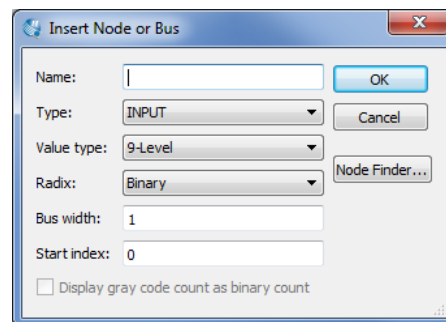
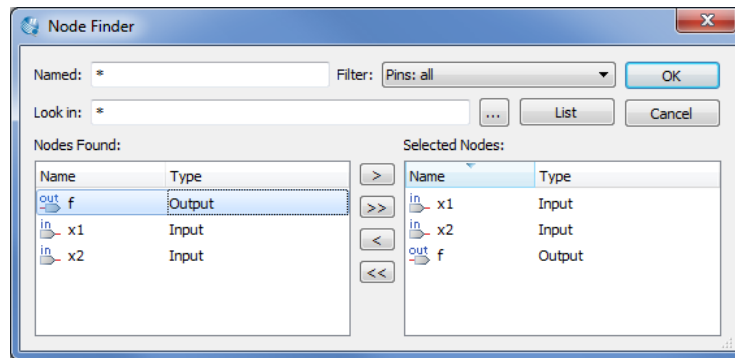
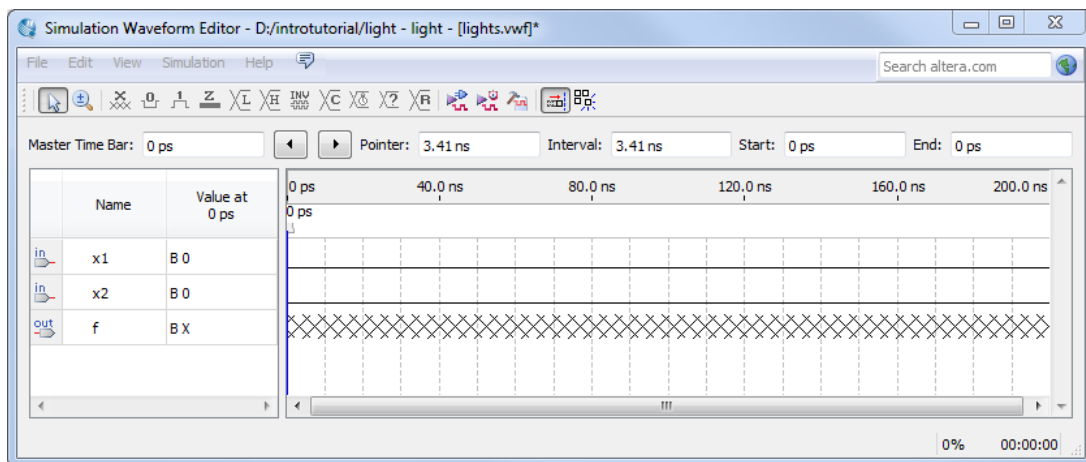

Figure 32. The Insert Node or Bus dialog box.
Figure 33. Selecting nodes to insert into the Waveform Editor.
Figure 34. The nodes needed for simulation.
3. Next, we want to include the input and output nodes of the circuit to be simulated. Click **Edit > Insert > Insert Node or Bus** to open the window in Figure 32. It is possible to type the name of a signal (pin) into the Name box, or use the Node Finder to search your project for the signals. Click on the button labeled **Node Finder** to open the window in Figure 33. The Node Finder utility has a filter used to indicate what type of nodes are to be found. Since we are interested in input and output pins, set the filter to **Pins: all**. Click the **List** button to find the input and output nodes as indicated on the left side of the figure.
Click on the  $x1$  signal in the Nodes Found box in Figure 33, and then click the > sign to add it to the Selected Nodes box on the right side of the figure. Do the same for  $x2$  and  $f$ . Click OK to close the Node Finder window, and then click OK in the window of Figure 32. This leaves a fully displayed Waveform Editor window, as shown in Figure 34. If you did not select the nodes in the same order as displayed in Figure 34, it is possible to rearrange them. To move a waveform up or down in the Waveform Editor window, click within the node's row (i.e. on its name, icon, or value) and drag it up or down in the Waveform Editor.